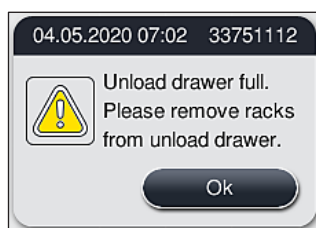

Fig. 88
- The unload drawer must be opened and the racks must be removed no later than when the warning message is received indicating that the unload station is completely occupied (→ "Fig. 88"). Failure to comply with the warning message results in not being able to transport further racks into the unload stations. Deviating step times and delays in the staining process may change and ultimately invalidate the staining results.